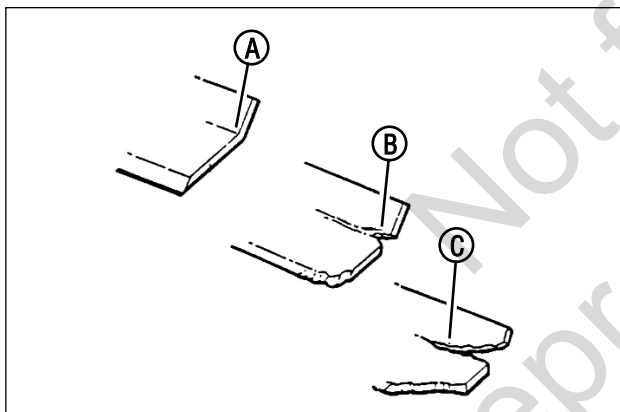

Figure 18: Standard blade wear limits
1. Inspect the blade (Figure 18) frequently for signs of excessive wear or damage:
- (A) New blade
- (B) Wear limit (notch starts)
- (C) Dangerous condition! Do not use on the mower! Replace with a new blade.